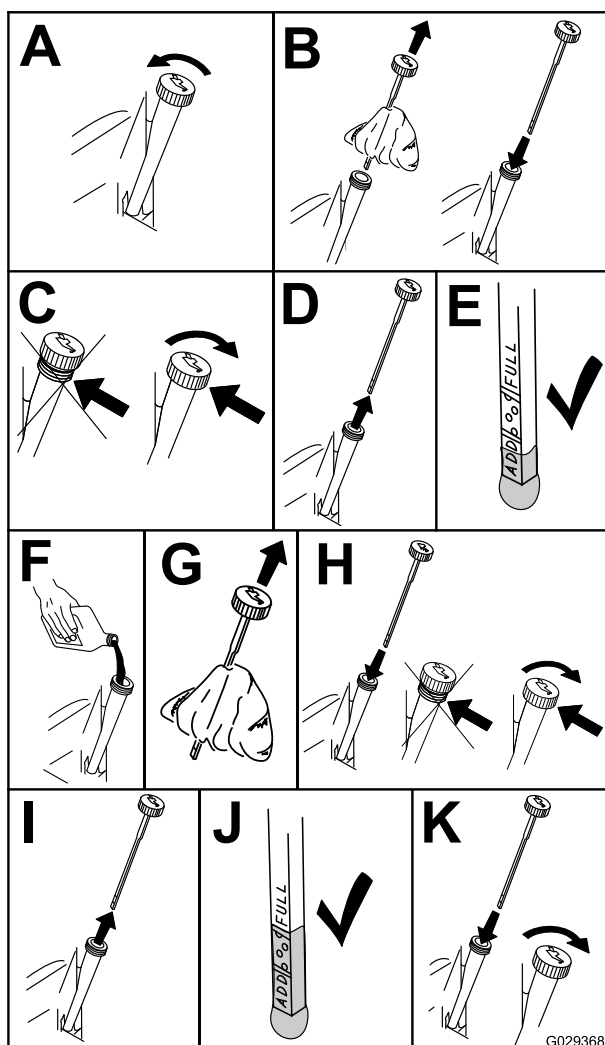

Figure 43
- To keep dirt, grass clippings, etc., out of the engine, clean the area around the oil-fill cap and dipstick before removing it (Figure 43).